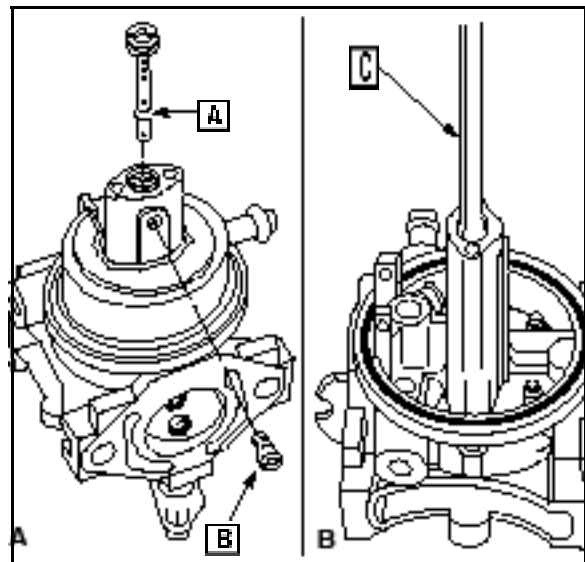

Fig. 74
5. Remove fixed main (B) jet from end of fuel pick up tube first, Fig. 74, then remove the emulsion tube ([A] Fig. 74).